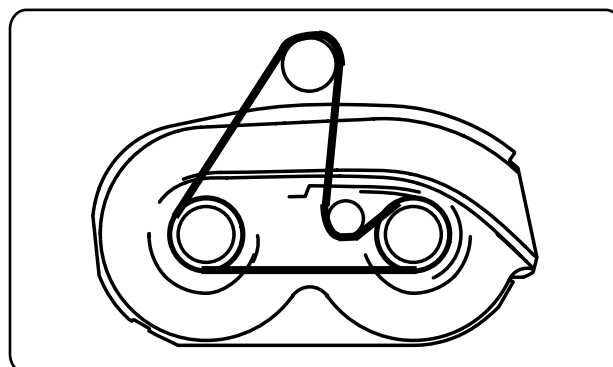

Figure 8.14
- For a 38" deck, See Figure 8.14.